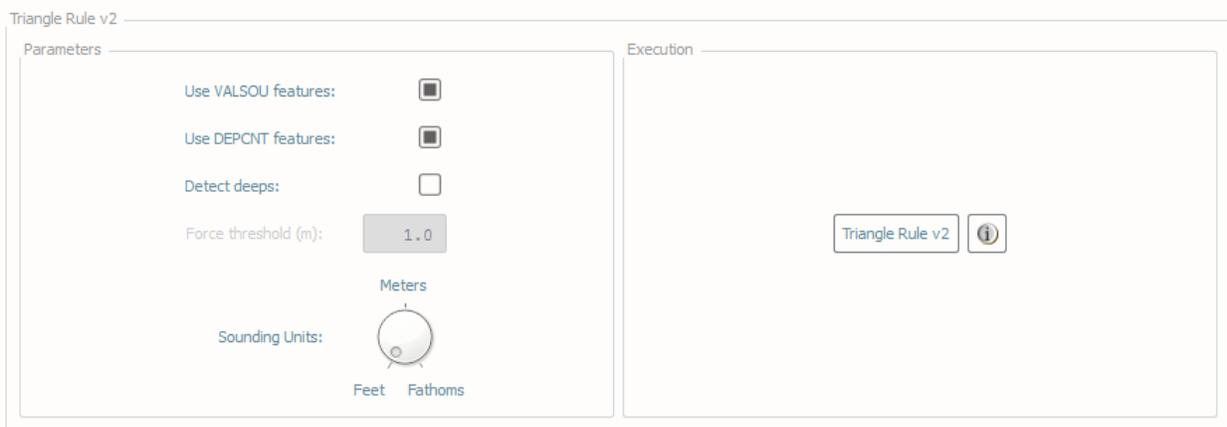

Fig. 2.37: DtoN's Triangle Rule interface.
- In **Parameters** (Fig. 2.37, left side):
- In **Execution** (Fig. 2.37, right side), click **Triangle Rule v2**.